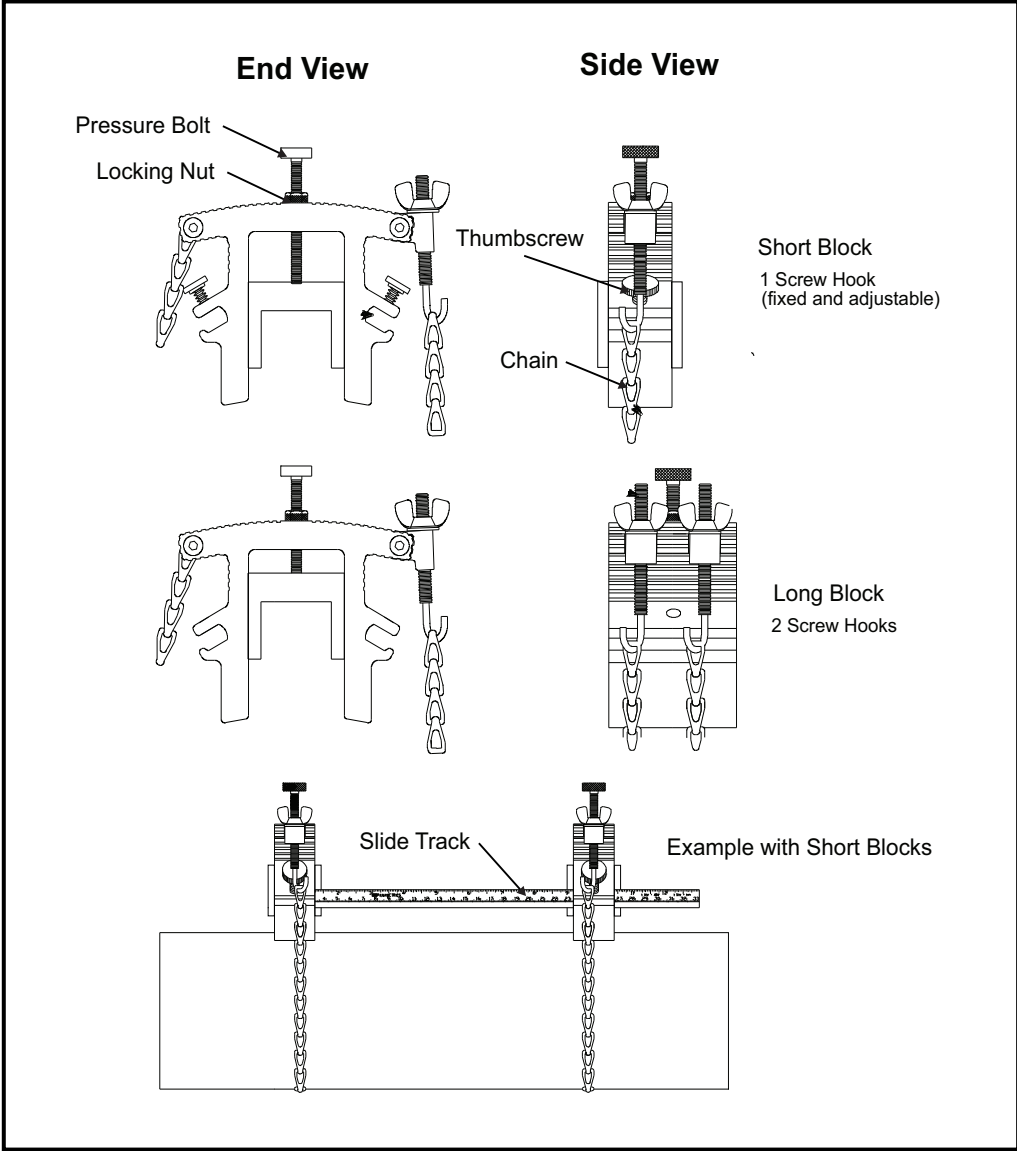

Figure 4: Components of the UCF
The **UCF** includes the following components (see Figure 4 on page 7):
6. Tighten the locking nut on the pressure bolt (see Figure 4 on page 7).